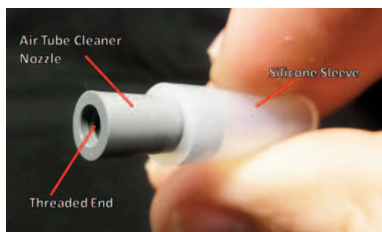

Figure 5: Air tube cleaner nozzle and silicone sleeve
- Attach the air tube cleaner nozzle by screwing the threaded end of the nozzle onto the nozzle extension tube using the same silicone sleeve. Tighten until the nozzle can no longer spin, and then remove the silicone sleeve (see Figure 5 and Figure 6).